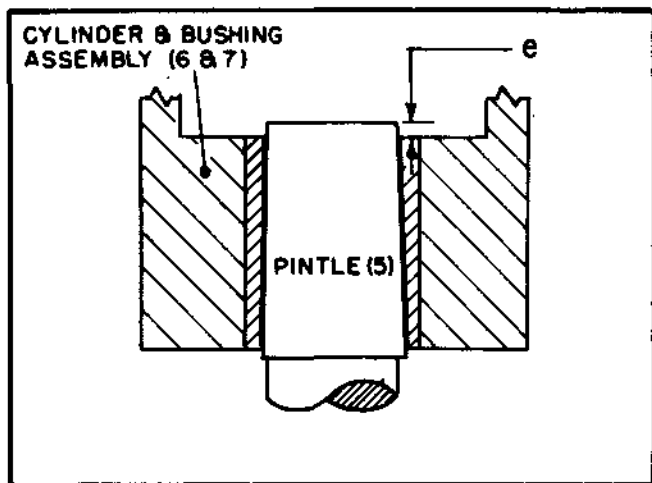
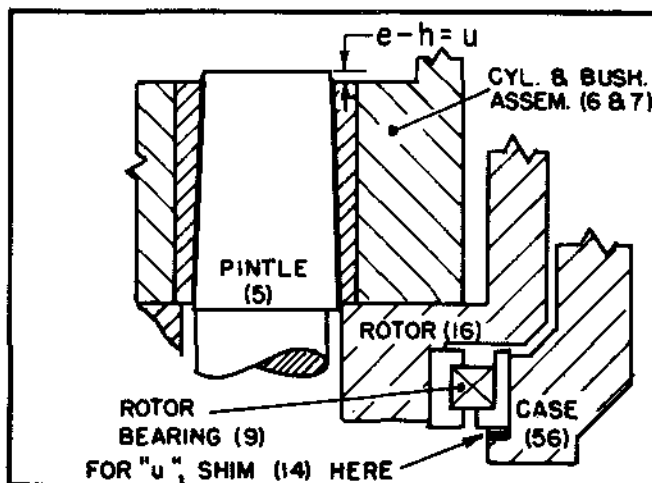
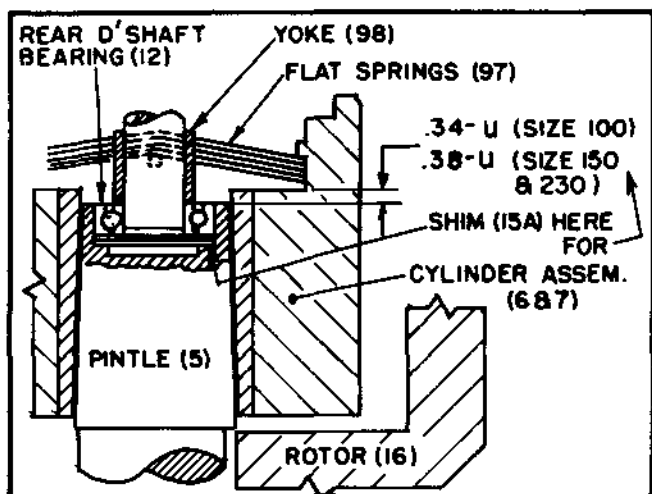

FIGURE 7. TIGHT POSITION.
FIGURE 8. OFF TIGHT POSITION.
FIGURE 9. SPRING DEFLECTION SHIMMING.
B. GPRV ("CG" only). Reassemble in reverse order of disassembly. Anneal gasket (54) and be sure it is in place before tightening cap.
C. GEAR PUMP ("CG" only). Replace parts in reverse order of disassembly. Check driveshaft key (26) fit in driveshaft and driving gear (22). Gear must be sliding fit over shaft and key. Lock gear pump cover screws (69) with soft iron or brass wire. If only the gear pump was dismantled, refer to paragraph on "Driveshaft (IX-D-4) for insertion and shimming of front shaft bearing and correct shimming for cylinder end-play.
1. PINTLE. If pintle (5) was removed, set pump case with open end facing up in a press (see V-A-g for force needed). Apply a thin coat of white lead on the large tapering surface of pintle and insert pintle into case locating it with key (77). Slip a sleeve over small pintle end so it rests against
large diameter shoulder, not pintles small end. Press on sleeve until pintle end is flush with back of case. Cylinder bushing (7) and pintle (5) have 0.032" taper on diameter per inch of length. Suspend cylinder-bushing assembly in a crane with large end of bore downward. Clean pintle and bushing surfaces thoroughly. Slowly lower cylinder over pintle, do not scrape bushing against edges or pintle ports. Stop when cylinder begins to become tight on pintle. Do not let entire weight of cylinder rest on pintle or it will become too tight and damage the bushing. At this point, the pintle should project past cylinder bushing face the amount shown in V-A-e (see figure 7). Record actual dimension and identify it as "e". Remove cylinder from pintle.
2. ROTOR. If spacers (17 & 17A) and thrust rings (18) were removed, press new ones evenly into rotor (16). Install a minimum of eight 0.010" thick shims (14) in case's rotor bearing counter bore. If measurement "e" from step 1 was less than shown in V-A-e, add one additional shim for each .010" less. Press rotor bearing (9) outer race, with thrust flange down, into case. Install inner race assembly of rotor bearing (9) on rotor and inner race of bearing (10) on rotor cover (65). Be sure bearing races are tight against hub shoulders. Lubricate bearings, place rotor assembly in case and make sure bearing (9) turns freely.
3. CYLINDER. Lubricate mating surfaces of pintle and cylinder bushing, and lower cylinder without pistons (8) on pintle; do not scratch bushing on pintle. With cylinder resting on rotor, be sure cylinder turns freely and measure pintle projection (see figure 8). It should project by an amount equal to "e" (from step 1) less dimension given in V-A-h ("e" minus "h"). Add or remove rotor bearing shims (14) to obtain correct position of cylinder. Record actual final measurement as "u".
4. DRIVESHAFT. Lift cylinder off pintle and place a .187" thick spacer ring inside rotor. Position cylinder on pintle so it rests on this spacer. Fit coupling ring (21) and coupling flange (19), without rollers, in cylinder end. Remove driveshaft (1 or 1A) from housing (57 or 72) (see VII-D on "Shaft Removal"). Place housing assembly in position with gasket (29) (use pieces if available) and tighten housing screws (57A or 72A). If removed, fit front driveshaft bearings (11) on shaft with both outer race thrust sides facing seal (27) end, install lock-washer (4), tighten nut (3) to hold bearing tight against shaft shoulder and bend one prong of washer to lock nut. Remove any shims (15) from counter-bore in housing. Slide shaft with coupling spacer (2) and key (26) (if used) in place, through housing firmly. Be sure outer race of bearing (11) is all the way down and measure from top of outer race to face of housing. Add shims under bearing until this measurement increases .005" to .010". Add .010" shims (15) between outer front driveshaft bearing (11) and gland (71) until gap between gland and housing (without gasket in place) is .005". Install seal (27), match gasket (28) holes to gland and secure gland with gasket to housing. Remove housing and driveshaft assembly from case; coupling flange and ring from cylinder; cylinder from pintle and .187" spacer ring from rotor.
5. CYLINDER. Insert pistons (8) all the way in cylinder (6) and carefully lower assembly part way on pintle. Hold it high enough to set spring yoke (98) on rear shaft bearing (12), balls (96) in yoke and flat springs (97) on balls in each side of yoke. Size 100 units use six springs, size 150 use seven. Lower cylinder until it hangs on springs (see figure 9). Measure from bushing face to end of pintle to determine spring deflection. Shim (15A) under bearing (12) to obtain measurement of 0.34" minus "u" for size 100; or 0.38" minus "u" for size 150. The "u" dimension was recorded in step 3. Be sure outer race thrust face of bearing (12) faces down. Install coupling ring (21) and rollers (20). Check for free fit of coupling piston ring (19A) in cylinder bore, install ring in coupling flange (19) and assembly in cylinder.